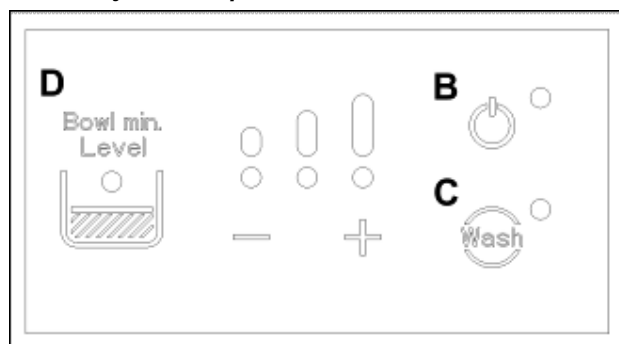

Fig. 68
- When the product level LED D and the power LED B (Fig. 68) are lit with a buzzer sound activated, it means that the product level in the top tank is low and should be refilled; in these conditions the appliance is blocked and only the dispensing system will be activated if necessary until the product level has been restored.**